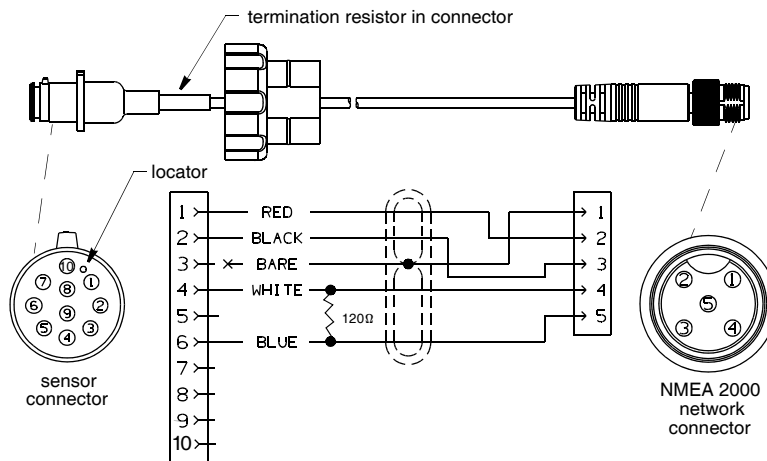

Figure 6. NMEA 2000 sensor cable [10m (33') shown]
**NOTE:** Sensor cables longer than 6m (20') have a termination resistor built into the sensor connector (Figure 6).